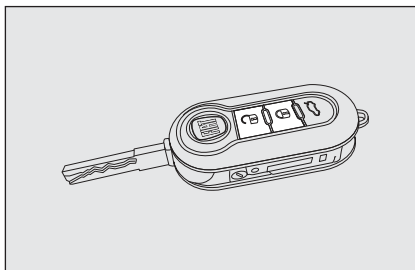
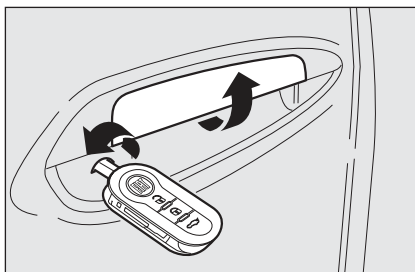
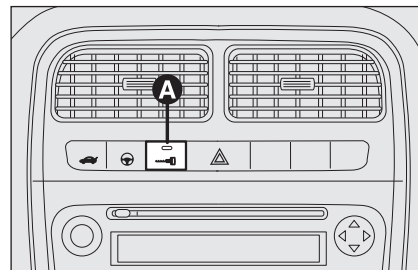

fig. 70
fig. 71
fig. 72
With the doors closed, press button  on the remote control **fig. 70** or insert the key into the lock of the door on the driver's side and turn it clockwise. Locking is signalled by the LED on button **A-fig. 72** coming on. The doors will be locked only if all doors are shut. If one or more doors are open after pressing button  on the remote control **fig. 70**, the direction indicators and the LED on button **A-fig. 72** flash quickly for approximately 3 seconds.
If one or more doors are open after turning the key, only the LED on button **A-fig. 72** will blink rapidly for approximately three seconds. If the doors are closed but the boot is open, the doors are locked: the direction indicators (only when locking is carried out using button  **fig. 70**) and the LED on button **A-fig. 72** flash quickly for approximately 3 seconds.
With this function active, it is however possible to unlock the other doors by pressing button **A-fig. 72** on the central panel.
Quickly pressing button  on the remote control **fig. 70** twice will engage the dead lock device (see paragraph "Dead lock device").
Briefly press button  **fig. 70** to unlock the doors remotely, turn on the ceiling lights for a limited period and double flash the direction indicators, or insert the key into the driver's door lock and turn it anti-clockwise as shown in **fig. 71**.
Press button **A-fig. 72** to lock/unlock all doors. The button has an LED that indicates whether the doors are locked or unlocked. When the doors are locked, the LED is on and pressing the button brings about central unlocking of all the doors and turns off the LED. When the doors are unlocked, the LED is off and pressing the button brings about central locking of all the doors. The doors will be locked only if all the doors are properly shut.
it will not be possible to unlock them by pressing button **A-fig. 72** located on the dashboard.
- locking/unlocking button **A-fig. 72**;
The dead lock device is automatically activated on every door by briefly pressing the remote control button **A-fig. 70** twice.
Device activation is indicated by 3 flashes of the direction indicators and a flash of the LED on button **A-fig. 72** on the dashboard.